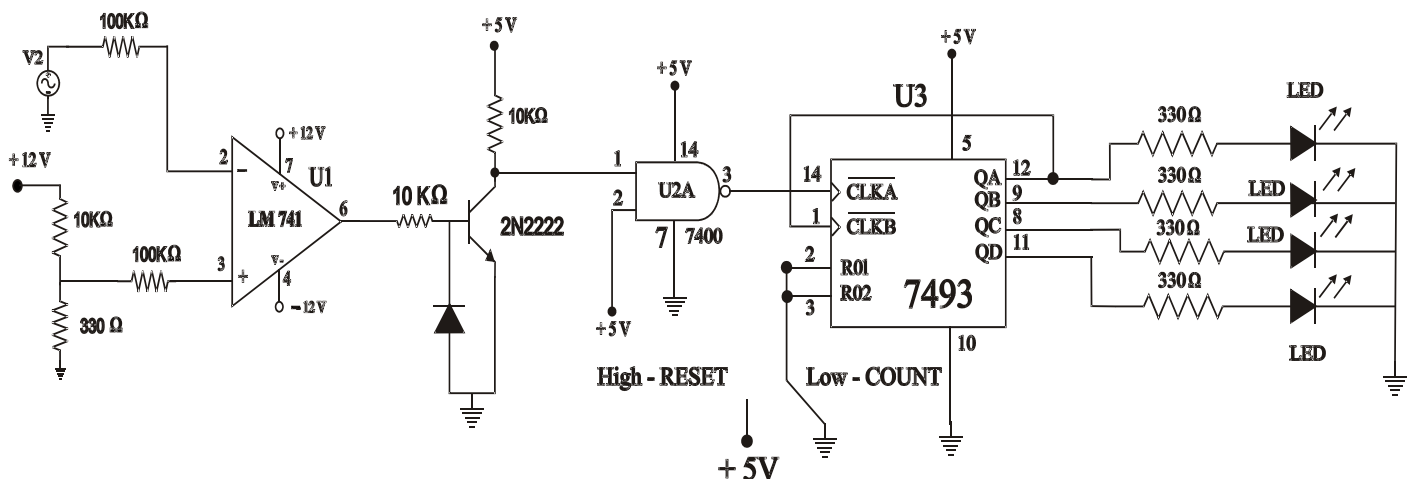

Fig. 8.1: Obtaining a TTL level signal and feeding it to a counter.
The circuit shown in Fig. 8.1 is for obtaining a TTL level signal and feeding it to a counter.
1. Connect the circuit as shown in Fig. 8.1 with 'CLKB' connected to 'QA'. Make sure the power supply ground is connected to the circuit ground.